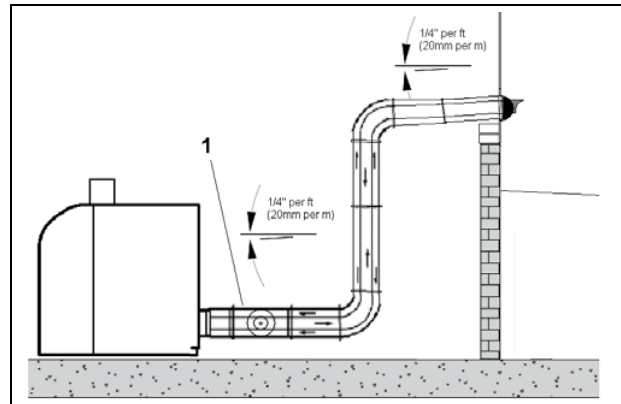

Fig. 3 Location of clean-out section and slope of pipes
11. The position of the termination should be chosen so that all horizontal pipes slope downward to the boiler at $\frac{1}{4}$ " per ft (20 mm per meter). The flue terminal itself must also be sloped at $\frac{1}{4}$ " per ft (20 mm per meter) to the inside so that any condensate drains inward (Fig. 3).
An inspection and clean-out section must be installed sideways in the horizontal section of the flue gas pipe as the first section after the boiler adapter (Fig. 3, Item 1).
- Trim pipes at a right angle to the required length x (Fig. 3).